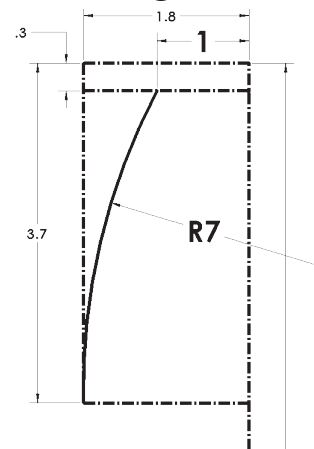

Fig. 7
Step 4. Click **Smart Dimension**  (S) on the Sketch toolbar.
Step 5. Dimension arc **7** and **1** between top arc endpoint and vertical centerline, **Fig. 7**.